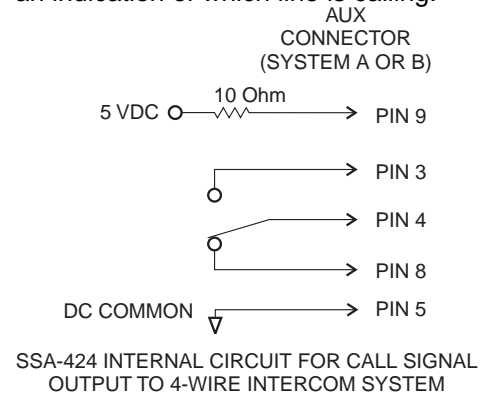

**Figure 6. Typical call send and call enable/inhibit connections for a 4-wire intercom system.**
**Figure 5. Call signal connections for ADAM, ADAM CS, or Zeus Intercom Systems.** This example uses GPI outputs #1 and #2 and GPI input #1; however, you may use any other available GPI inputs and outputs. The Call Enable/Inhibit connection is optional. It gives you the ability to disable call signaling using a GPI output. However, when connecting to a Clear-Com intercom system, if an enable/inhibit switch is not connected, a jumper must be installed as shown to enable call signaling. The jumper should not be installed for any other application. Note, you DO NOT have to use GPI outputs for call signaling or call enable/inhibit: you can use simple switches instead as shown in Figure 6.
The SSA-424A accepts a switch-contact input from the 4-wire system and then generates a call signal output to the 2-wire system. The SSA-424A also accepts an optional switch contact input to enable or inhibit call signaling between the 4-wire and 2-wire systems. Figure 6 shows the typical connections.